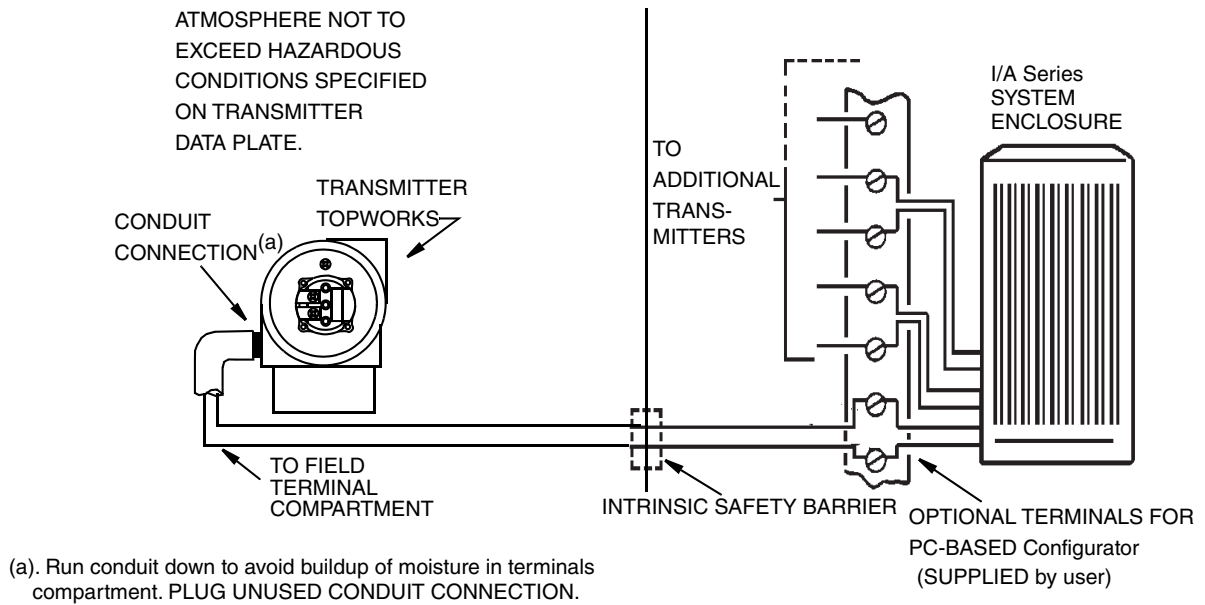

Figure 25. Typical Transmitter Wiring to an I/A Series System
2. Run signal wires (0.50 mm² or 20 AWG, typical) through one of the transmitter conduit connections as shown in Figure 25. Use twisted pair to protect the digital output and/or remote communications from electrical noise. Screened (shielded) cable may be required in some locations.